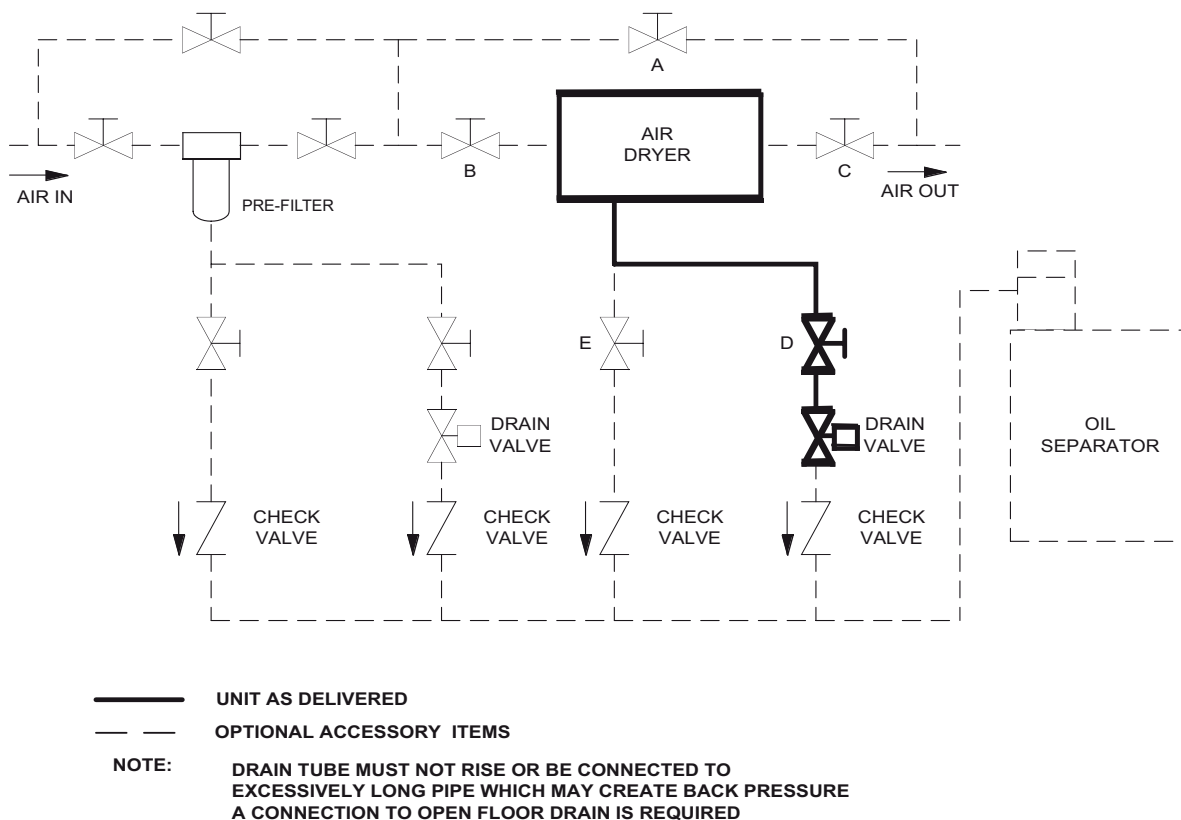

FIGURE 3: TYPICAL PIPING ARRANGEMENT
Install piping, fittings and accessories as required for specific site conditions and requirements. Figure 3 indicates a typical piping arrangement for a refrigerated dryer, including dryer and filter bypasses. This figure can be used as a guide for valve and accessory placement in the system.
Ingersoll Rand 1000 through 1600 models come factory installed with a drain isolation valve (D). The isolation valve permits maintenance of the automatic drain without isolating air flow to the dryer. To operate dryer, all valves shown in Figure 3 are to be closed except valves (B), (C) and (D). Valve (A) is used for bypass purposes and valve (E) is for test and manual drain purposes.